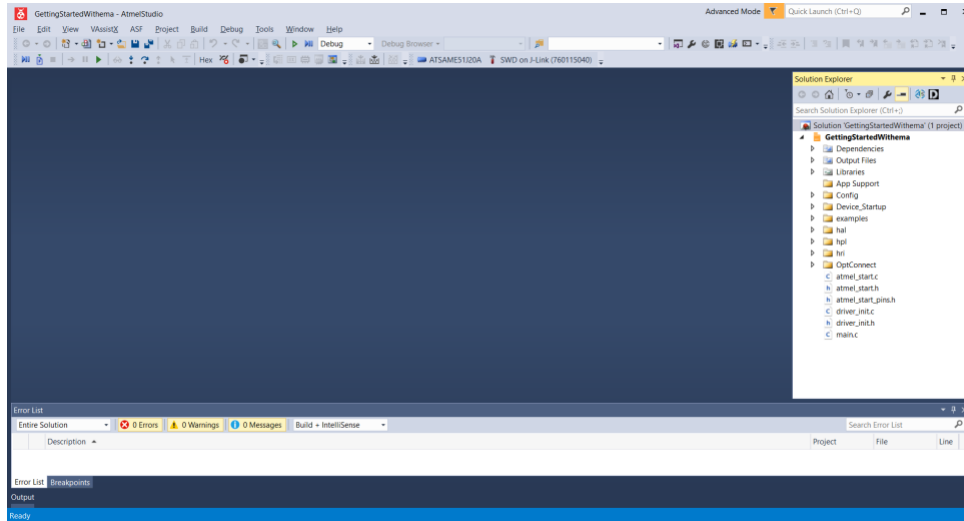

Figure 6
4. **Open the project:** Open the *GettingStartedWithemaVx.x* sample project by clicking on the “Open Project” link or selecting “File”, then “Project/Solution” and navigating to the location of the *GettingStartedWithema.atsln* file that was obtained in step 2. Once the project has been opened, the screen should look similar to *Figure 6*.